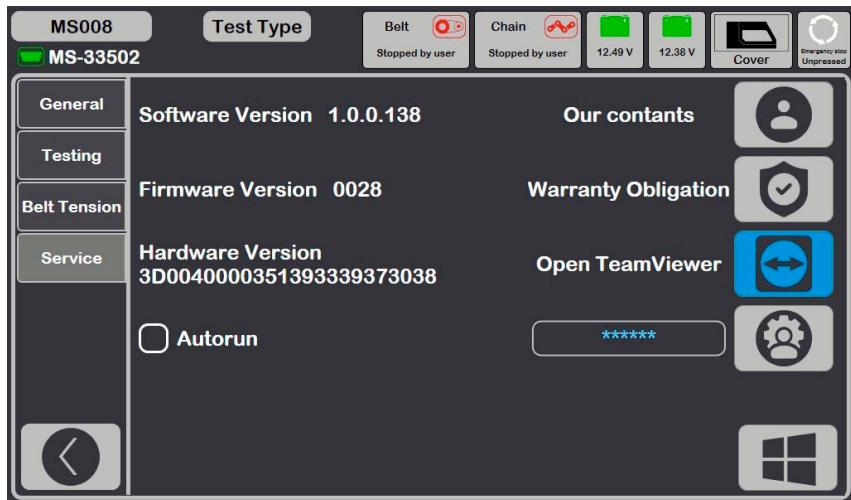

Figure 9
- "**Service**" – used by factory service specialists in case of software malfunctions, see Fig. 9.